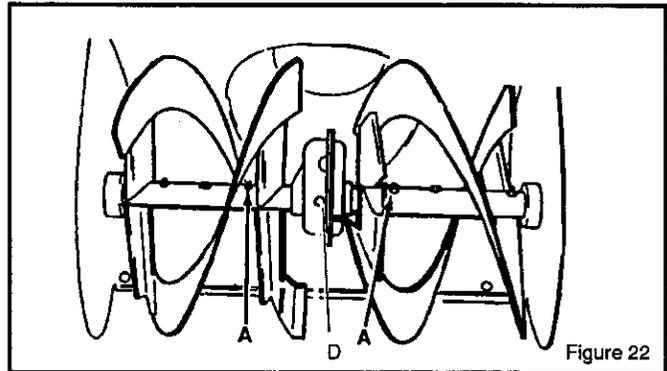
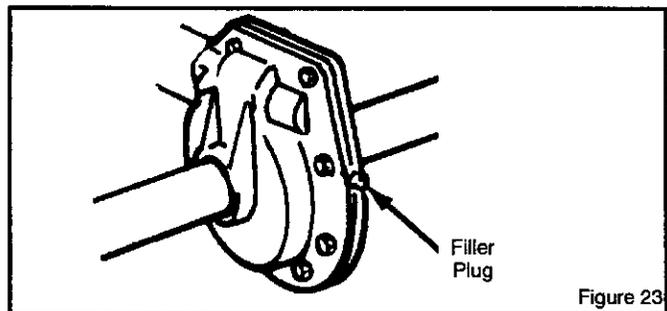

Figure 22
Figure 23
Remove filler plug D (Figure 22 and Figure 23), once a year. If grease is visible, do not add. If grease is not visible, use a piece of fine wire, like a dipstick to check if there is grease in the gear box. Mobilux EP1 and Shell Aldania EP1 are suitable equivalents.
1. **Auger Shaft** - Using a hand grease gun, lubricate the auger shaft zerk fittings (A) every ten (10) operating hours. Each time a shear bolt is replaced, the auger shaft **MUST** be greased (Figure 22). (See To Replace Auger Shear Bolt in the Repair/Adjustment section).